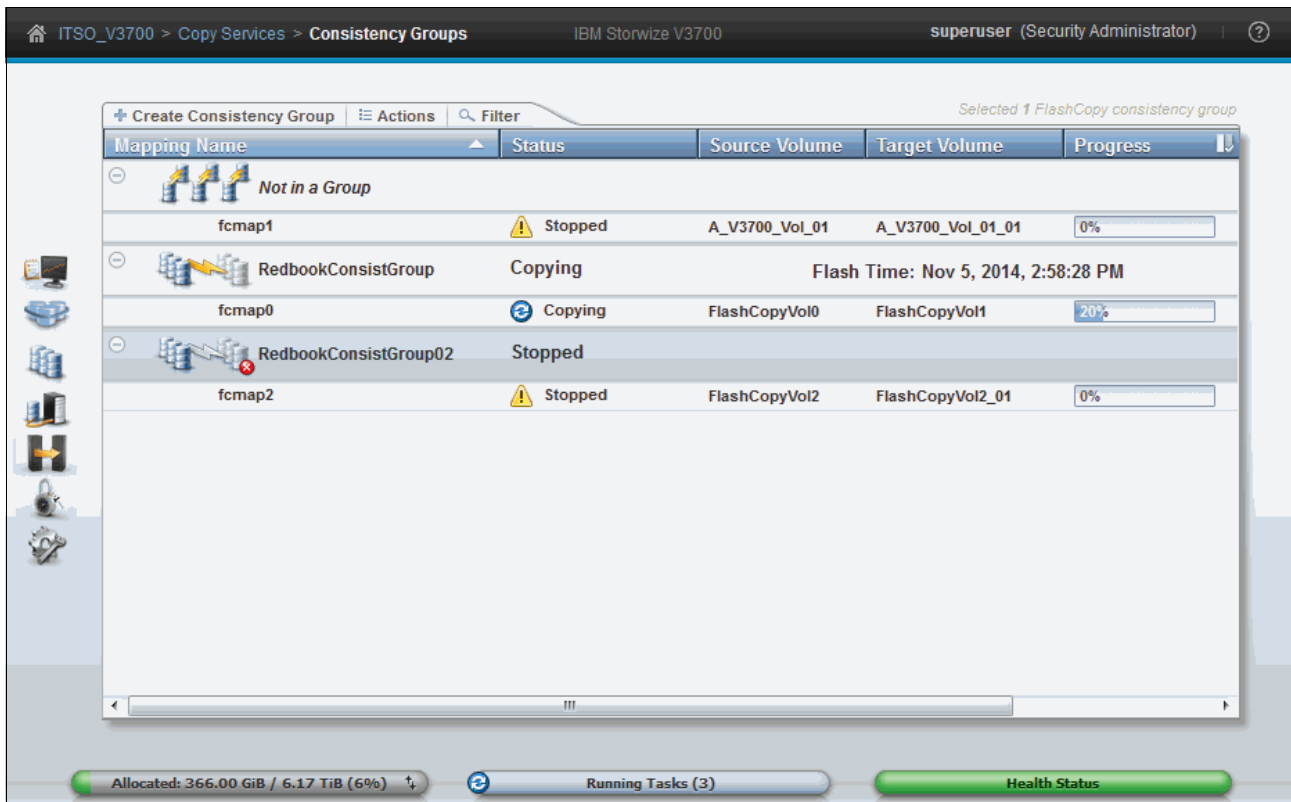

Figure 10-62 Consistency group stop completes
- After the stop process completes, the FlashCopy mappings in the consistency group are in the Stopped state, and a red X icon displays on the function icon of this consistency group to indicate an alert, as shown in Figure 10-62.